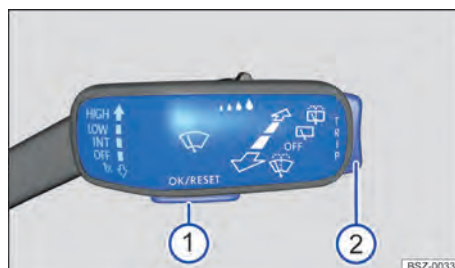

Fig. 11 On the right of the steering column: buttons on the wiper lever (illustration).
Vehicles without multifunction steering wheel: If any priority 1 warning reports are being displayed, you will be unable to open any menus. Some warnings can be confirmed and hidden with the **OK/RESET** button → Fig. 11 ①.
2. Press the **OK/RESET** → Fig. 11 ① button, several times if required, if a message or the vehicle pictogram is displayed.
3. Hold down the **TRIP** → Fig. 11 ② rocker switch to display the menus → page 24 or to return to the menu selection from a menu or an information display.
5. To open the menu or information display shown, press the **OK/RESET** button → Fig. 11 ① or wait until the menu or information display opens automatically after a few seconds.
1. In the displayed menu, press the rocker switch **TRIP** → Fig. 11 at the top or bottom until the desired menu option is marked.
2. Press the **OK/RESET** button → Fig. 11 to make the required changes.